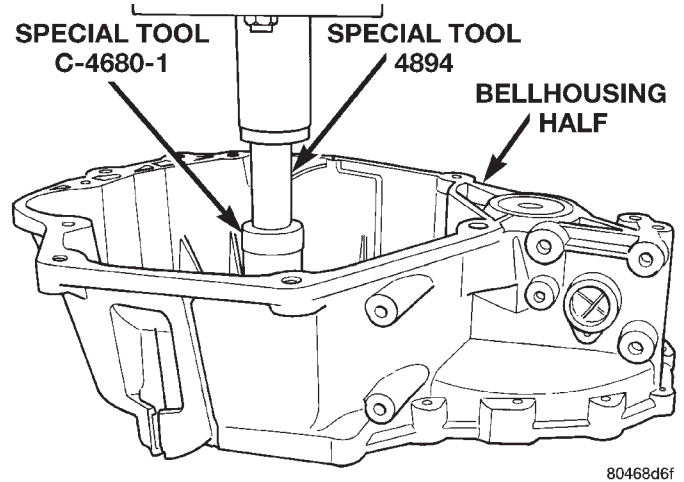

Fig. 138 Input Bearing Tool
- (1) Apply coating of Loctite® sealant on bearing outer diameter. Position sleeve and bearing assembly at input bearing bore.
- (2) Install tool #C-4680-1 over input bearing (Fig. 138).